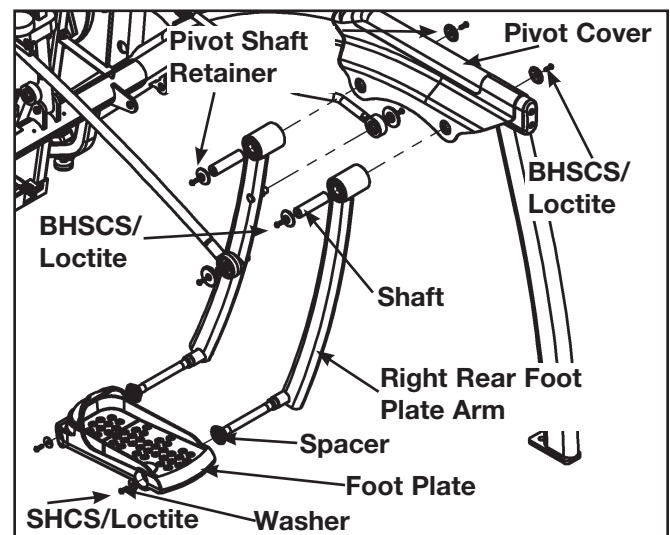

Figure 2
- A. Turn the main power switch above the power inlet to the off (0) position.
- D. Using two 7/32" Allen wrenches, remove the two BHSCS and pivot shaft retainers securing Foot Plate Arm to the Pivot Cover and remove the arm from the frame. See Figure 2.
- D. Using two 7/32" Allen wrenches, tighten both screws securely. See Figure 2.
**NOTE:** Front arm is shown exploded In Figure 2 but is not removed for this kit.
- A.** Turn the main power switch to the on (I) position.